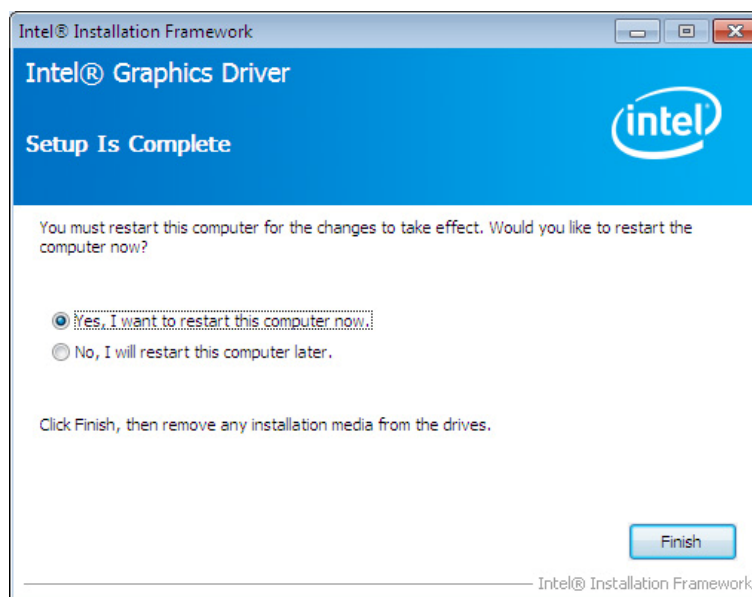

Figure 6-12: Graphics Driver Installation Finish Screen
Step 12: The **Finish** screen in **Figure 6-12** appears. Select “**Yes, I want to restart this computer now**” and click **Finish**.